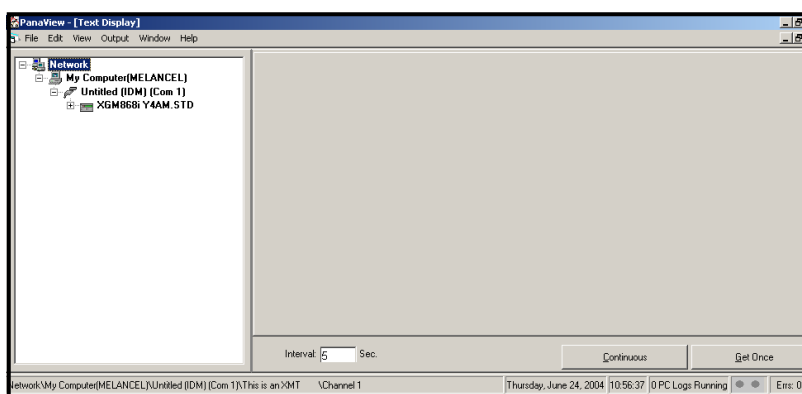

Figure 19: The Text Display Window
2. Using the *Window* menu, as described in the *PanaView User's Manual*, arrange the open windows in the desired format. For this discussion, *Figure 19* shows the *Text Display* window in its maximized (full-screen) size.
5. Before actual data values can be displayed in the text pane, activate one of the following data collection modes (see *Figure 19 on page 49*):